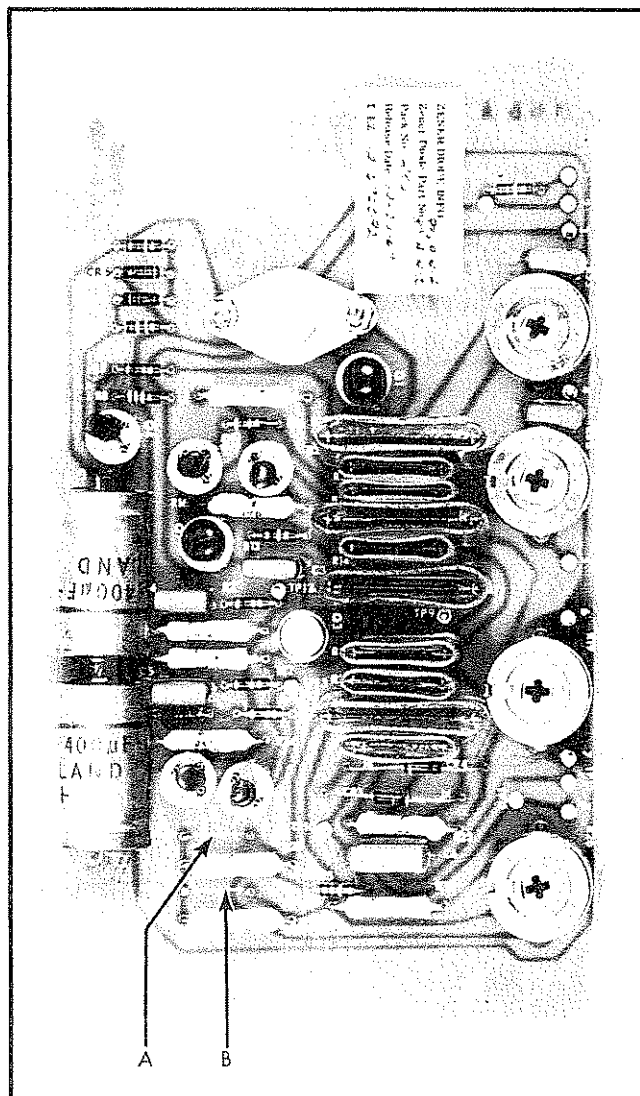

Figure 4-13. JUMPER WIRE LOCATION
- d. Remove ac power to the instrument and connect the jumpers illustrated in Figure 4-13 between their respective circuit board connections.